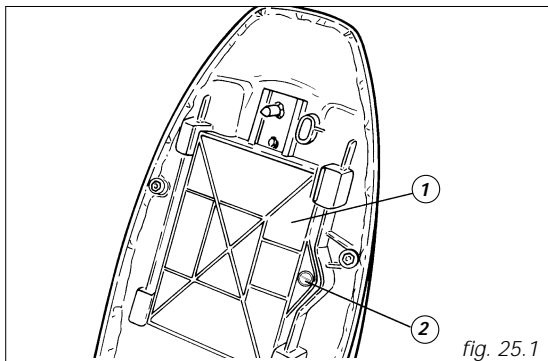

fig. 25.1
**Tool kit and accessories (fig. 25.1)**